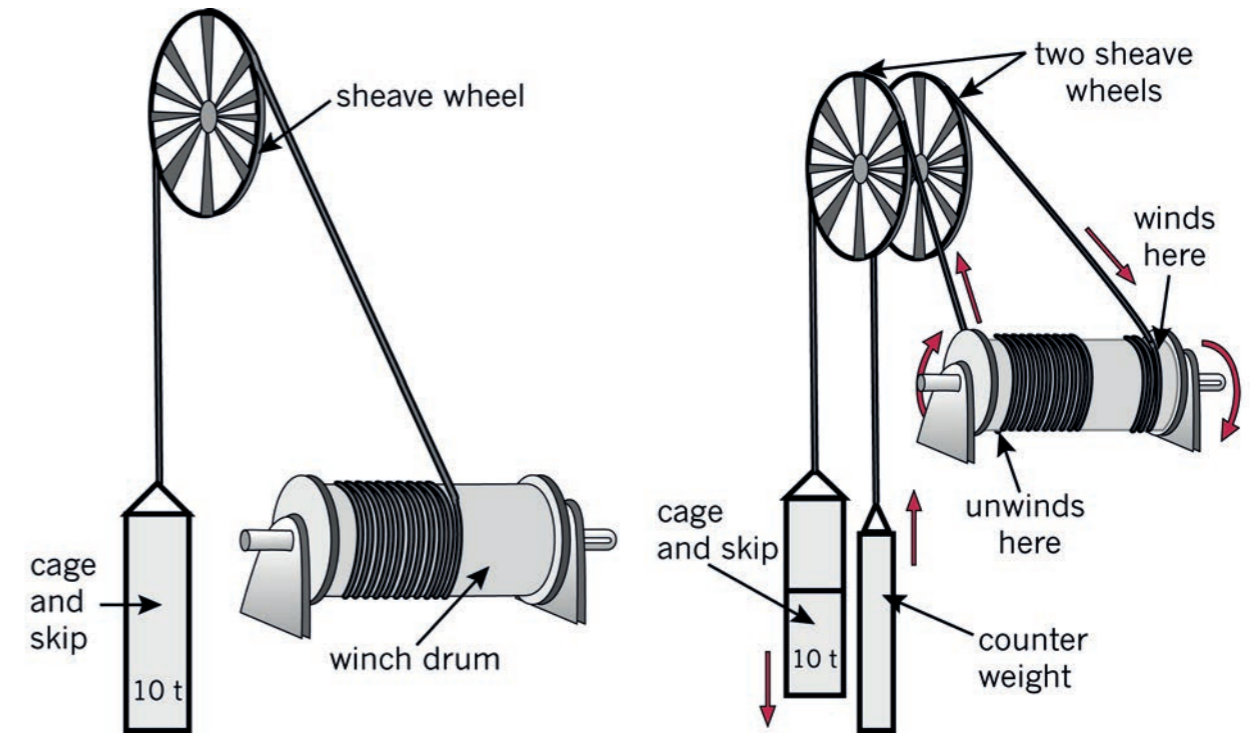

Figure 4: These are both mine winches with drum hoists. The winch on the right has two sheave wheels and a counterweight.
Look at the pictures in Figure 4. The pictures show two different types of mining hoists. The first one has one sheave wheel, while the second has two sheave wheels. Use these pictures to help you answer the questions below:
6. Which of the two systems in Figure 4 do you think will need the largest motor? Explain your answer. [1]